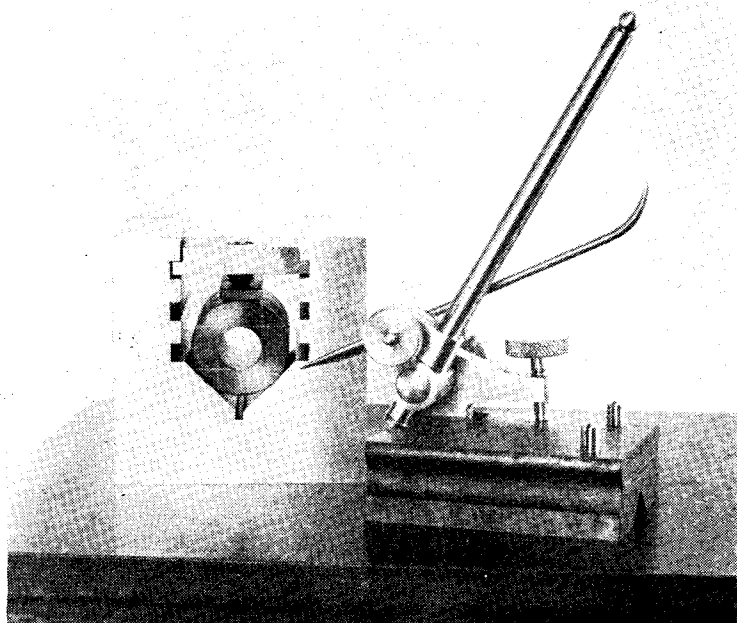

Fig. 5. Marking-out the square on the surface-plate
distance across the flats of the square, is then drilled axially right through the part, as shown in Fig. 4 (A). The bore is now opened out at the top end with a boring tool, to fit on to the end of the spanner shank. The next operation, illustrated in Fig. 5, is to mark-out the square accurately on both ends of the work; for this purpose, an Offen V-block was found most convenient, as the sunk clamping plate allows the block to rest on all four sides on the surface plate. The scriber of the surface gauge is set to the periphery of the drilled bore, and in this way, the four sides of the square are marked-out.